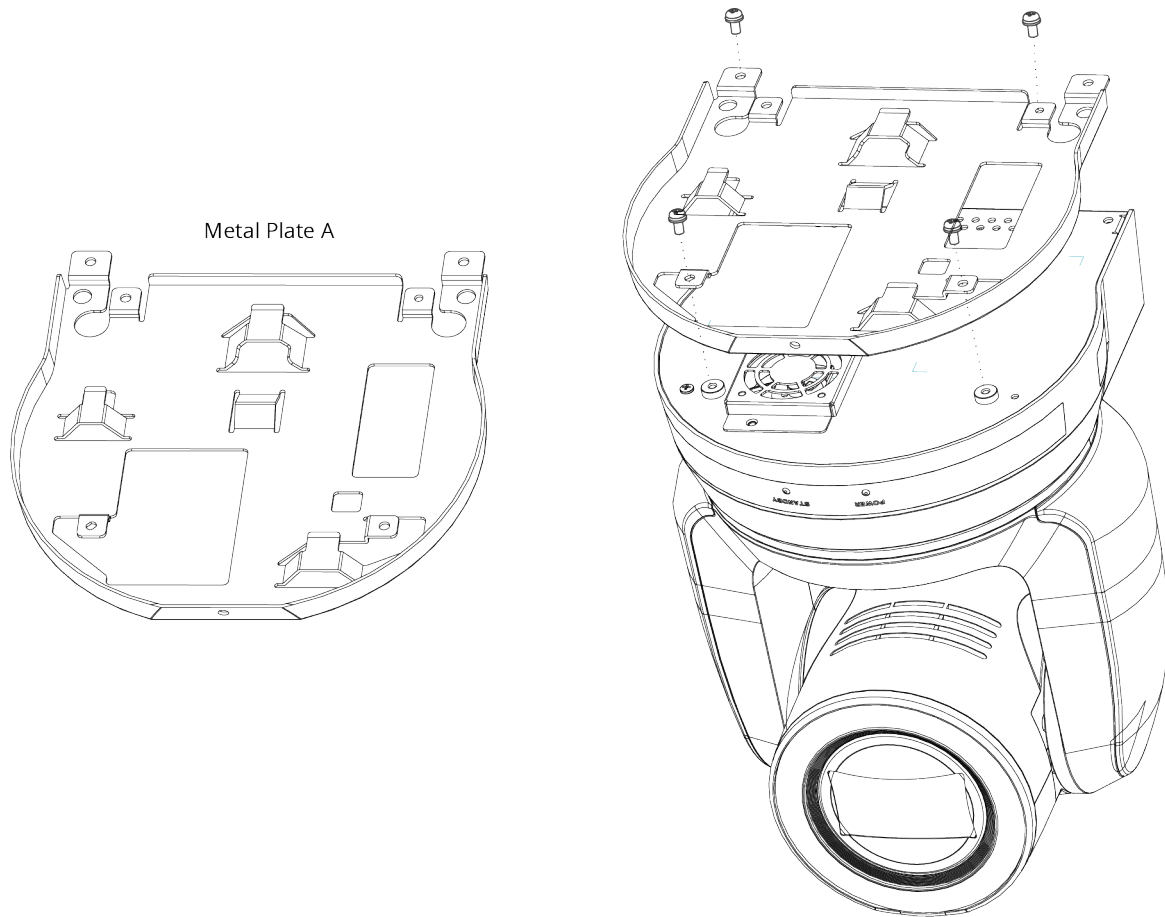

Figure 15 - Attaching Metal Plate A to the Base of the Camera (4 silver M3 screws - included)
2. Using four silver M3 screws (included), fasten **Metal Plate A** to the base of the camera (Figure 15).